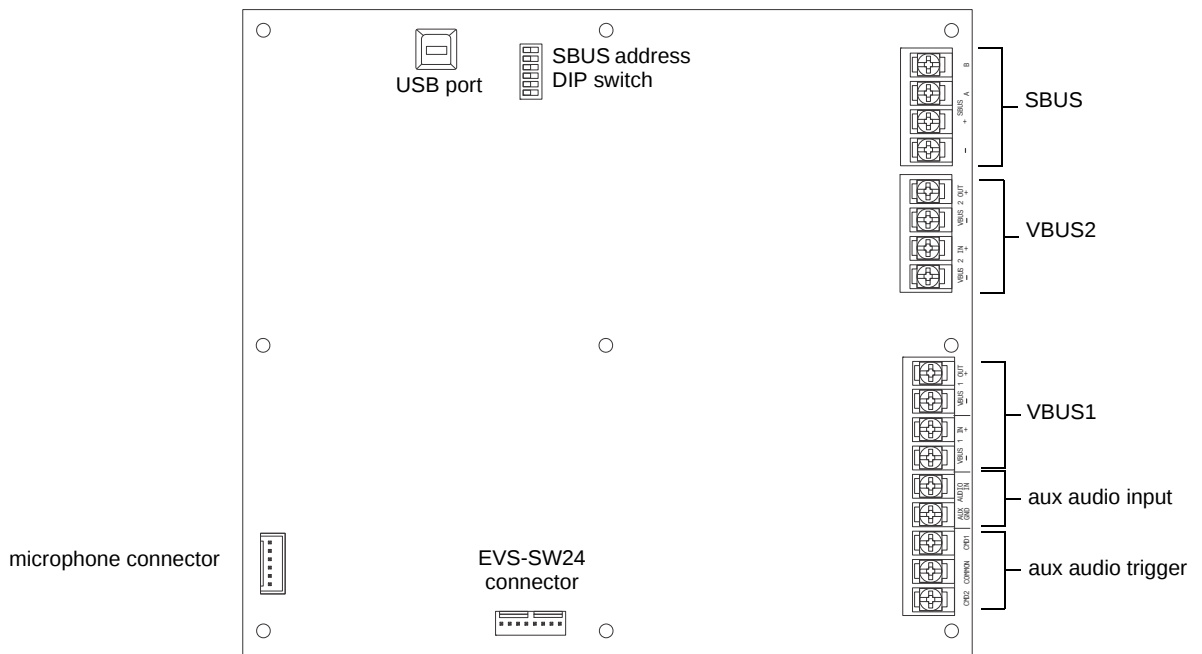

Figure 4.1 Back View of EVS-VCM
5. Connect microphone to Connector P2 on EVS-VCN Keypad. Refer to Figure 4.1 for location.